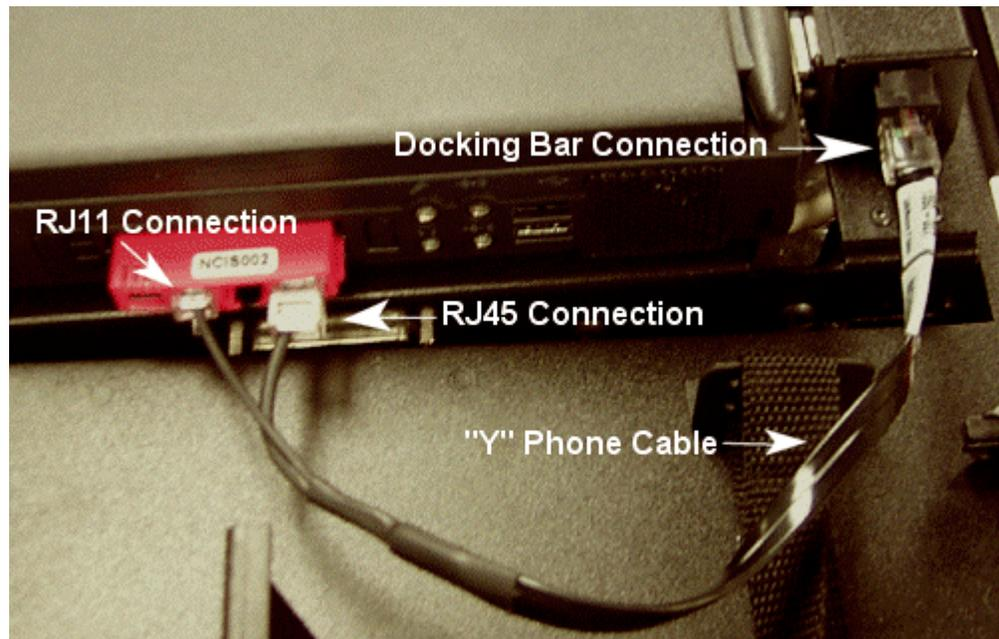

Figure 20 LAN/Modem Connections
- Take the "Y" Phone Cable and connect the single plug end to the docking bar and insert the RJ11 plug into the RJ11 connector and the RJ45 plug into the RJ45 connector of the Xircom card (see Figure 20).
- Insert the Xircom Card into the PCMCIA card slot of the computer (see Figure 20).
- Take the "Y" Phone Cable and connect the single plug end to the docking bar and insert the RJ45 plug into the RJ45 connection of the Xircom card (see Figure 20).